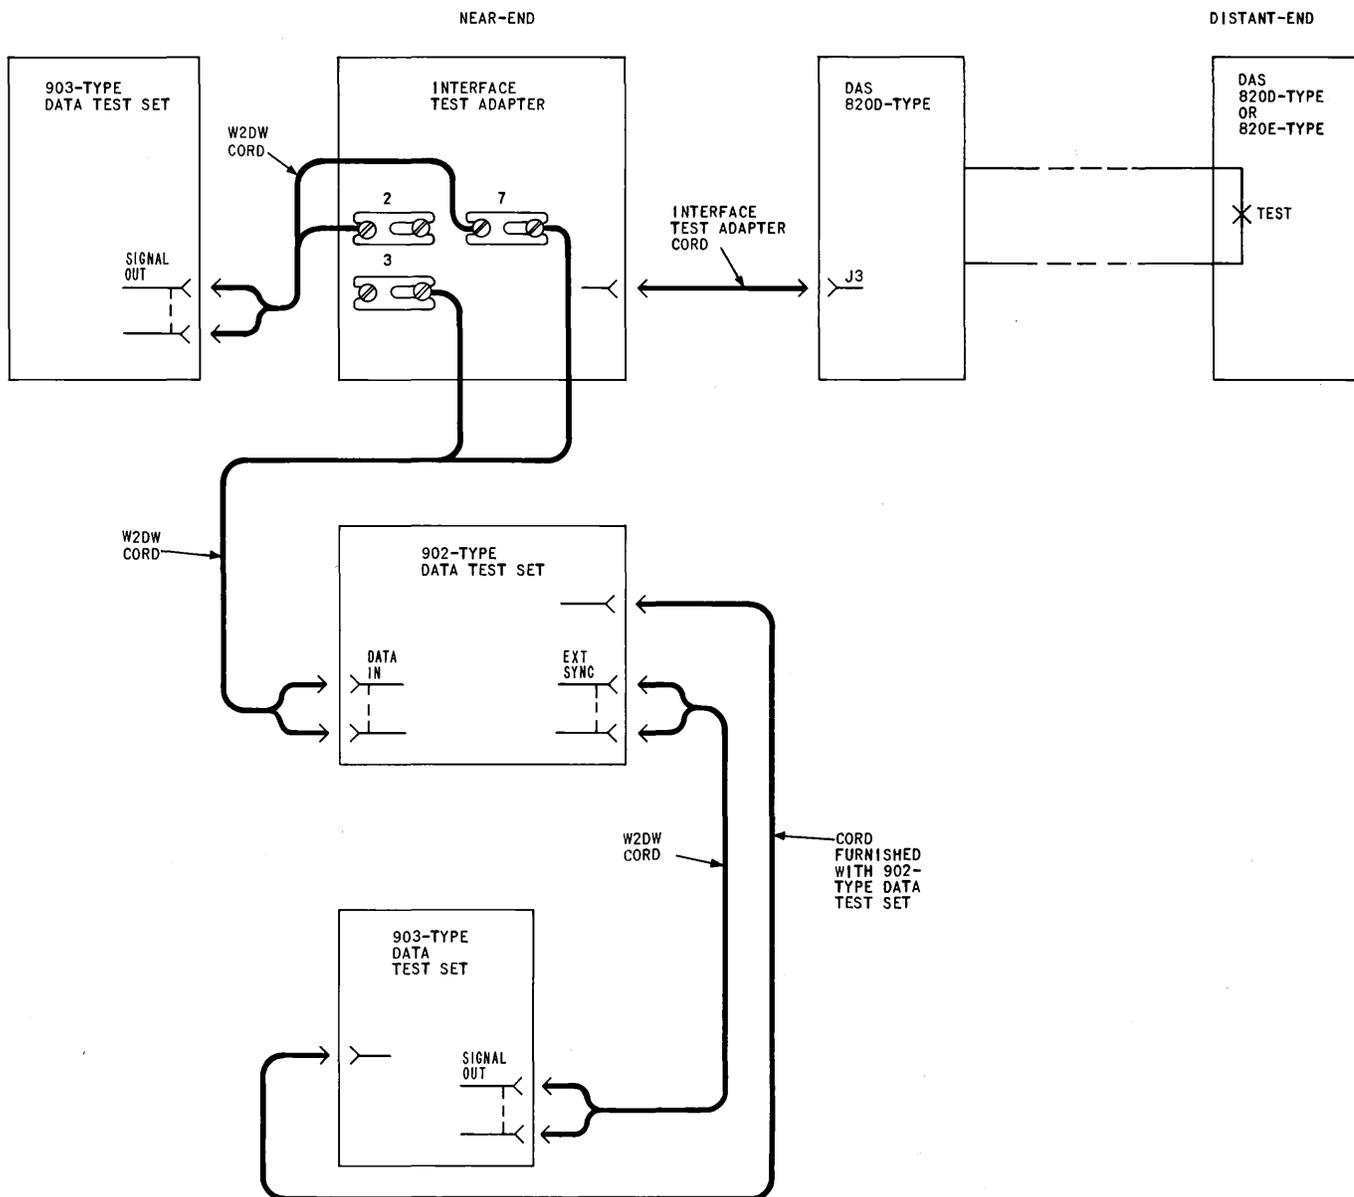

Fig. 2—Distortion Measurement Using 901-, 902-, and 903-Type Data Test Sets
5.11 The block diagram (Fig. 2) shows the equipment set up at the terminal for testing both directions of transmission. This checks the transmitter and receiver of both data sets and the two directions of transmission of the connecting facilities.